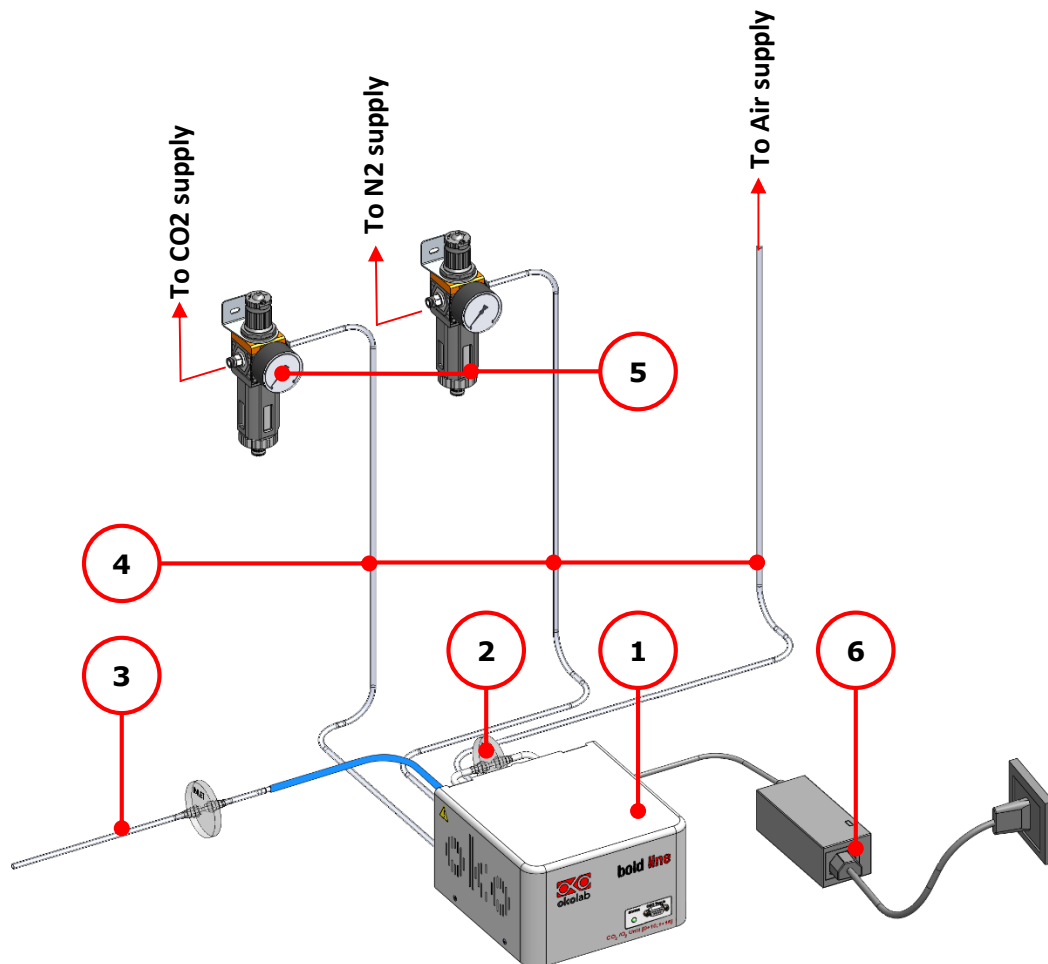
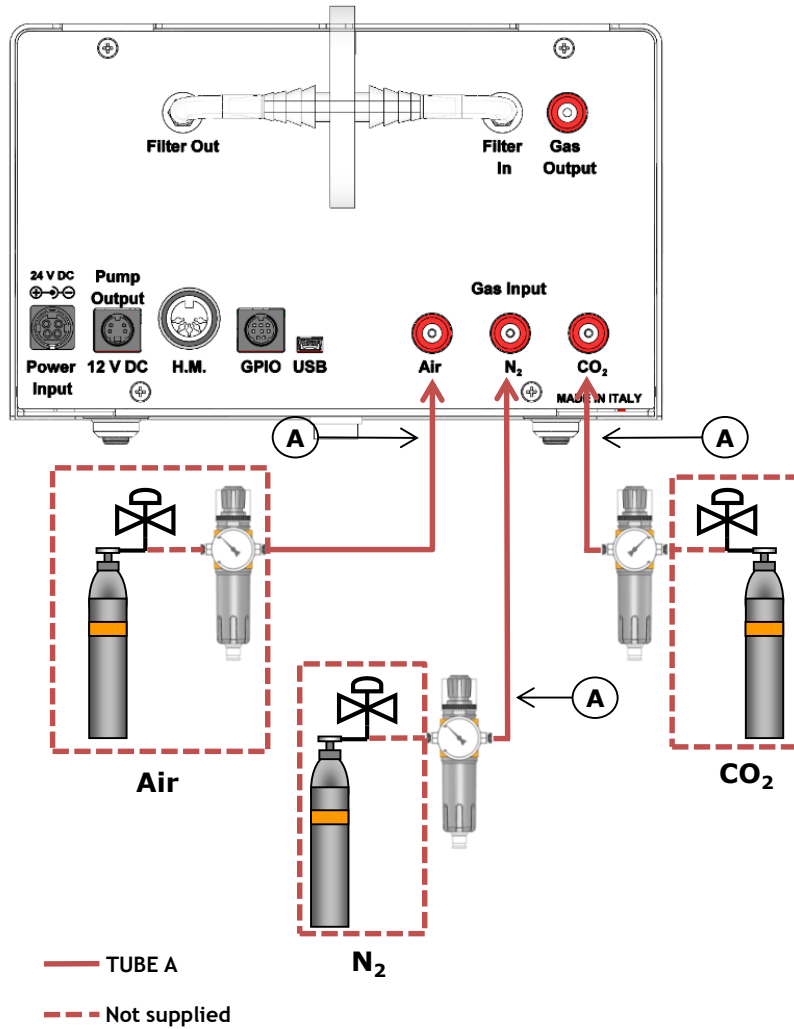

Figure 1. CO2-O2-UNIT-BL [0-10; 1-18] BL - components.
Figure 11. CO₂, N₂ and Air Tanks connections to the back panel of the CO₂/O₂ Controller
3. Figure 11 shows the connections between the CO₂, N₂ and Air tanks and the respective connectors on the rear panel of CO₂-O₂-UNIT-BL [0-10; 1-18] (see pointer 3 in Figure 1).
6. Connect the power adapter to CO2-O2-UNIT-BL [0-10; 1-18] (see pointer 8 in Figure 1).